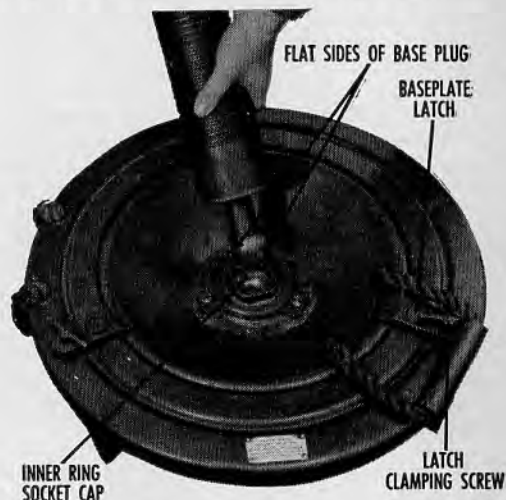

Fig. 30.6 Baseplate latches and inner ring socket cap.
6. The barrel is fastened to the base plate by inserting the spherical projection into the socket cap of the inner ring and rotating the barrel 90 degrees. (Fig. 30.6).